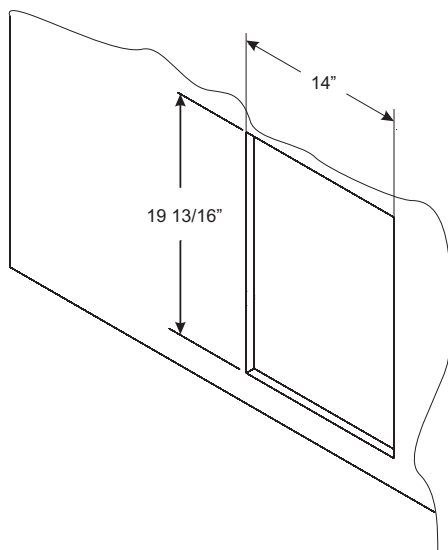
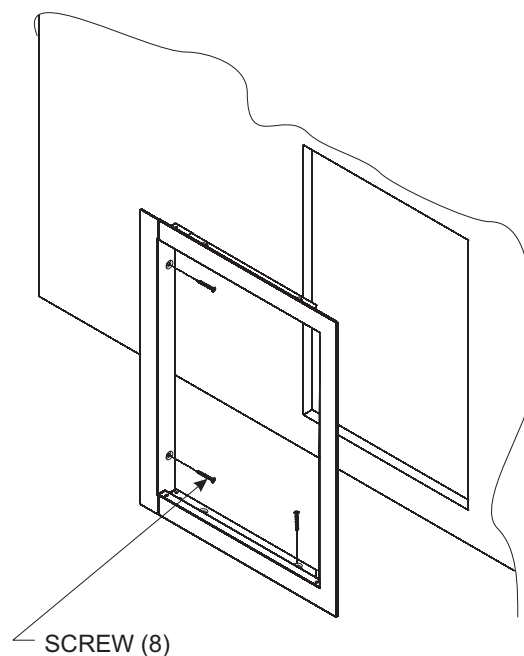

FIGURE 2
FIGURE 3
Make sure BDA Single Door opening dimensions match those in FIGURE 2. Place the Frame into the opening and check for proper hole alignment. Secure the Frame to the grill enclosure with eight (8) 8 x 3/4" Hex Head Screw screws. FIGURE 3.